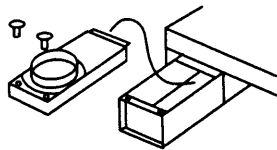

Fig. 6.4 Exhaust duct cover
- 1) Reassemble the exhaust duct cover ⑦ as shown in Fig. 6.4.
- 2) Lock the exhaust duct cover down with screws ⑥.